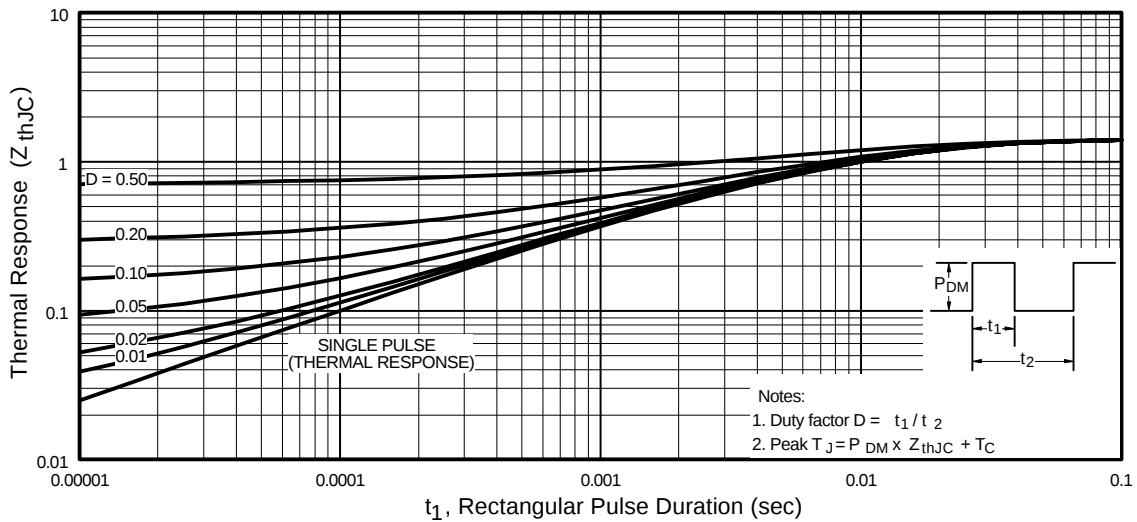

Fig 11. Maximum Effective Transient Thermal Impedance, Junction-to-Case
① Repetitive rating; pulse width limited by max. junction temperature. (See fig. 11)
② $V_{DD} = -25\text{V}$, starting $T_J = 25^\circ\text{C}$, $L = 2.1\text{mH}$